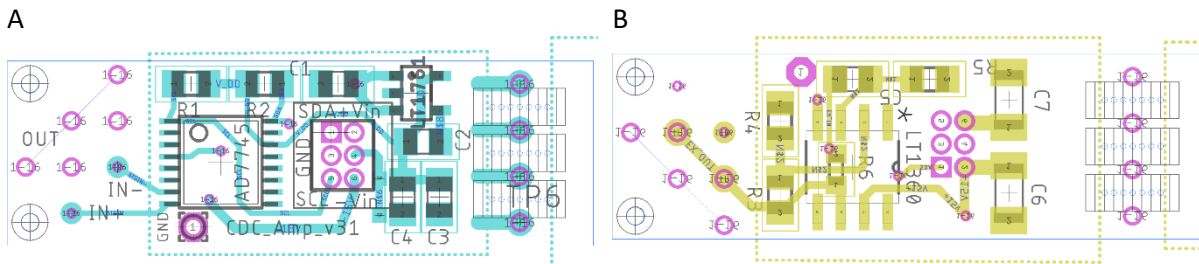

Figure 5: Schematics of the (A) top and (B) bottom of the detection head's PCB.
2. Solder the required components according to Table 2 onto the larger PCB. The schematics is displayed in Figure 5. The equipped top and bottom of the detection head's PCB with and without installed amplifier can be found in Figure 6.
Information: The head could also be supplied by the 5 V line of the Arduino, if the jumper Vopt|VA on the supply unit of the detection unit is connected and the test pad next to the upper pad of C4 is linked, see Figure 5